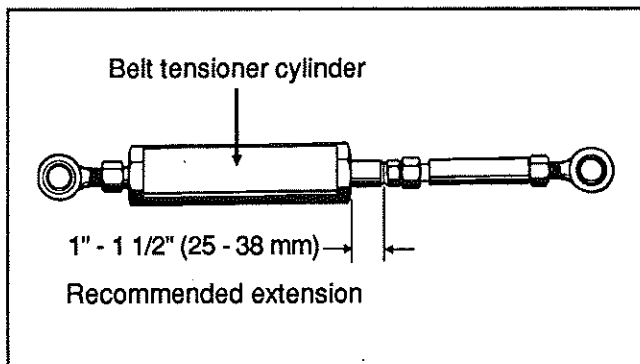

FIG. 13
5. For proper operation of the belt tensioner cylinder, adjust the belt tensioner cylinder rod to provide a 1" - 1 1/2" (25 - 38 mm) extension as shown in figure 13.